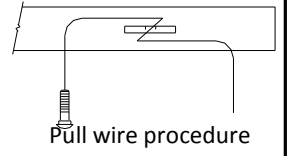

Figure 2
- Support and lower exhaust:** Lower the exhaust by removing (4) rubber hangers, and support the exhaust to prevent it from falling under it's own weight. Spraying a lubricant or soapy water on the metal hanger rod and the rubber isolator helps removal.
- Install fasteners:** Feed the coiled end of the pull wire ⑤ through the forward attachment hole in the frame and out the access hole. Feed spacer ② onto the pull wire ⑤ and thread the carriage bolt ① onto the pull wire ⑤. Pull the pull wire ⑤ with fasteners into location through the hole. Leave pull wire ⑤ attached. Repeat the same process on the both frame rails. See figure 2. Using the reverse pull wire procedure thread carriage bolt ① onto the pull wire ⑤ and feed it into the access hole on the frame rail then feed the spacer ② onto the pull wire ⑤ and feed it into the access hole and pull the carriage bolt ① into position through the spacer. Leave the pull wire ⑤ attached. See figure 3.
- Install hitch:** Raise the hitch above exhaust, feed pull wires ⑤ through the attachment points on hitch brackets. (Gently pull fascia rearward as needed to gain access between the fascia and exhaust hanger.)
- Install fastener:** Using the conical washer ③ to hold the bolt in place remove the pull wires ⑤ and attach the hex nut ④. Hand tighten both sides.
3. Install fasteners: Feed the coiled end of the pull wire ⑤ through the forward attachment hole in the frame and out the access hole. Feed spacer ② onto the pull wire ⑤ and thread the carriage bolt ① onto the pull wire ⑤. Pull the pull wire ⑤ with fasteners into location through the hole. Leave pull wire ⑤ attached. Repeat the same process on the both frame rails. See figure 2. Using the reverse pull wire procedure thread carriage bolt ① onto the pull wire ⑤ and feed it into the access hole on the frame rail then feed the spacer ② onto the pull wire ⑤ and feed it into the access hole and pull the carriage bolt ① into position through the spacer. Leave the pull wire ⑤ attached. See figure 3.
4. Install hitch: Raise the hitch above exhaust, feed pull wires ⑤ through the attachment points on hitch brackets. (Gently pull fascia rearward as needed to gain access between the fascia and exhaust hanger.)
5. Install fastener: Using the conical washer ③ to hold the bolt in place remove the pull wires ⑤ and attach the hex nut ④. Hand tighten both sides.